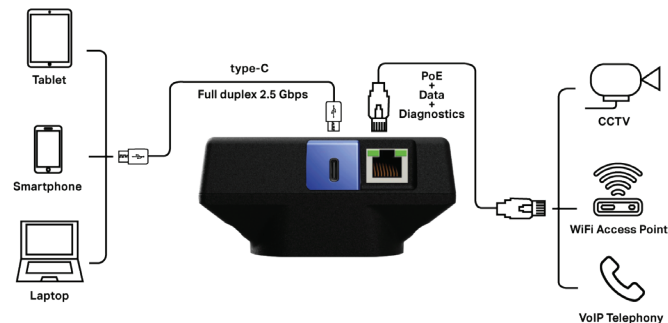

Figure 1
2. Connect a USB-C to USB-C or USB-C to USB-A cable to the USB-C port on the injector and to the corresponding port on your device (Laptop, Desktop, Smartphone, Tablet). (See Fig.1)
3. Connect the PoE OUT port with an Ethernet cable to the PD. (See Fig.1)